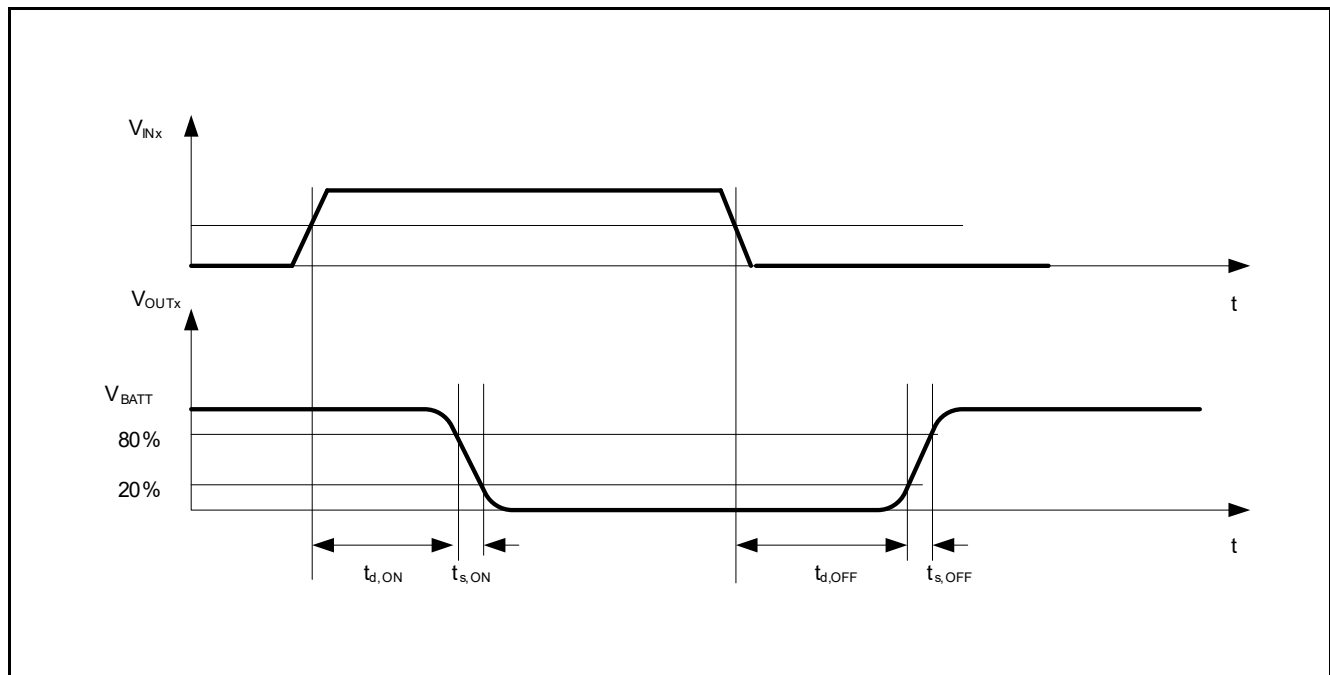
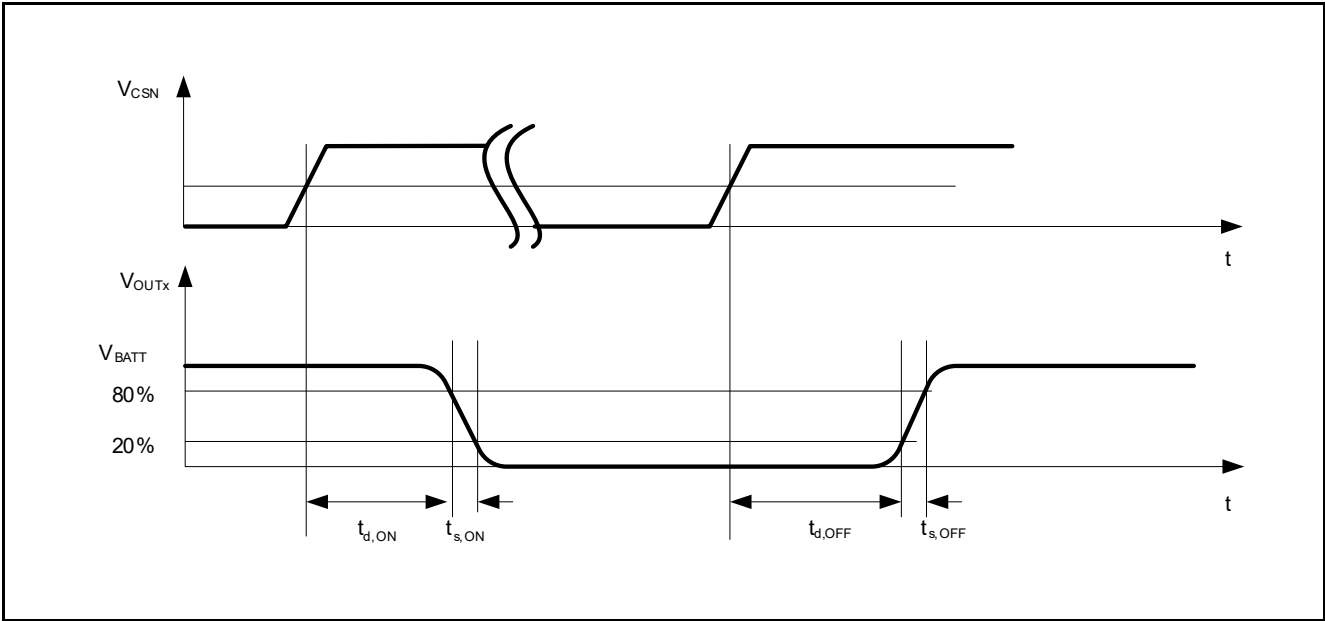

Figure 7 **Timing low side switches channel 1 and 3**
Figure 8 Timing low side switches channel 2, 4 and 5
- 1) Definition of timing see Figure 7 or Figure 8.